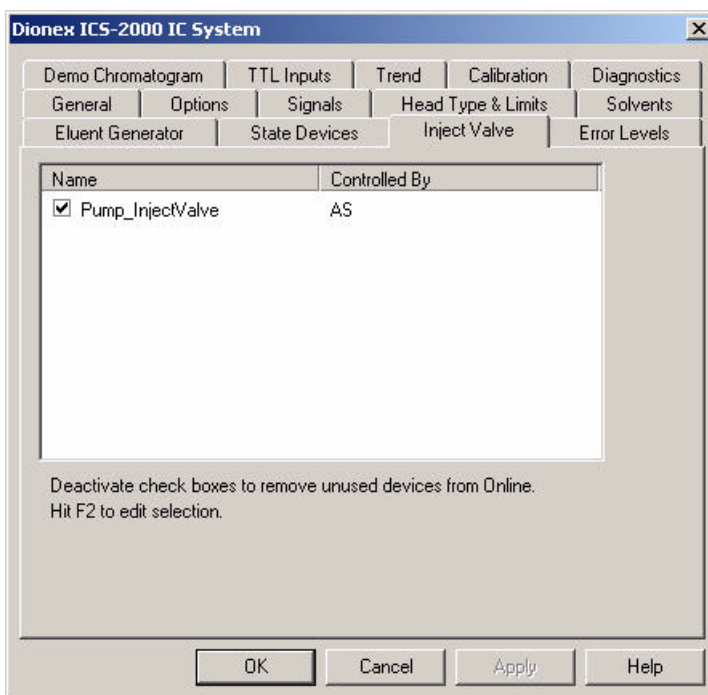

Figure B-107. ICS-2000 Inject Valve Server Configuration Properties
- d. Verify that the **Pump_InjectValve** check box is selected and that **AS** is listed in the **Controlled By** column (see Figure B-107).